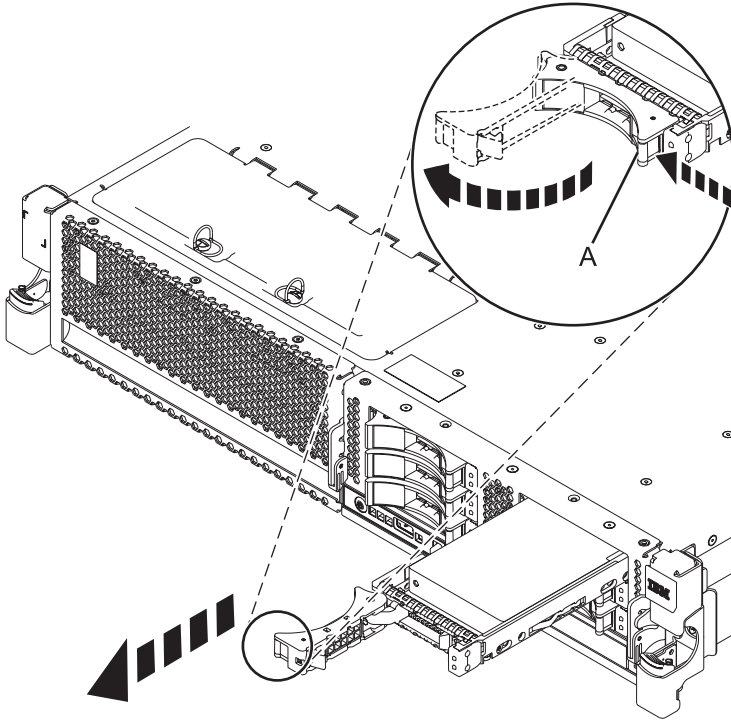

Figure 19. Removing a disk drive from the system
1. Unlock the disk drive or solid-state drive handle by squeezing it and pulling it out toward you, as shown in Figure 19 on page 34.